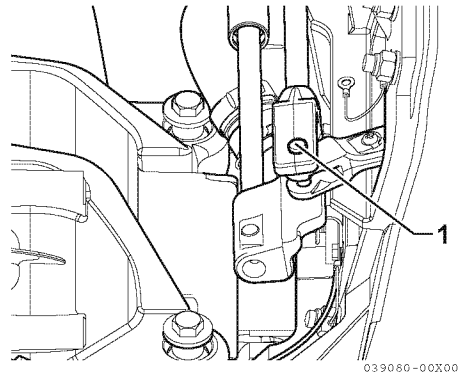

Figure 7
3. Lubricate the steering system clevis pin (1, **Figure 7**).